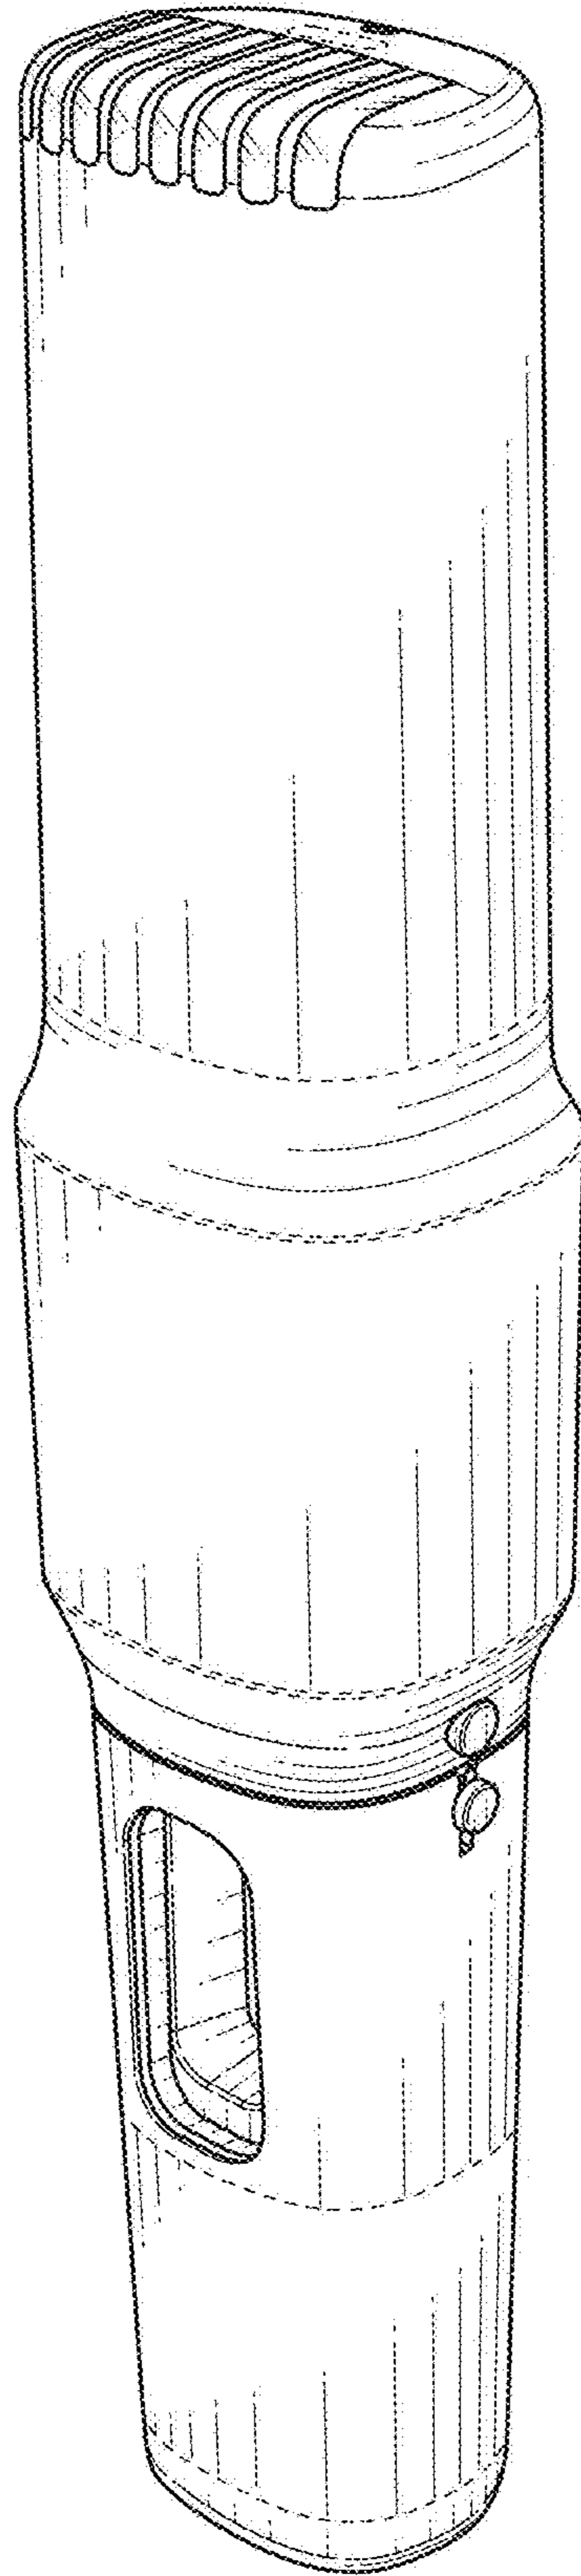
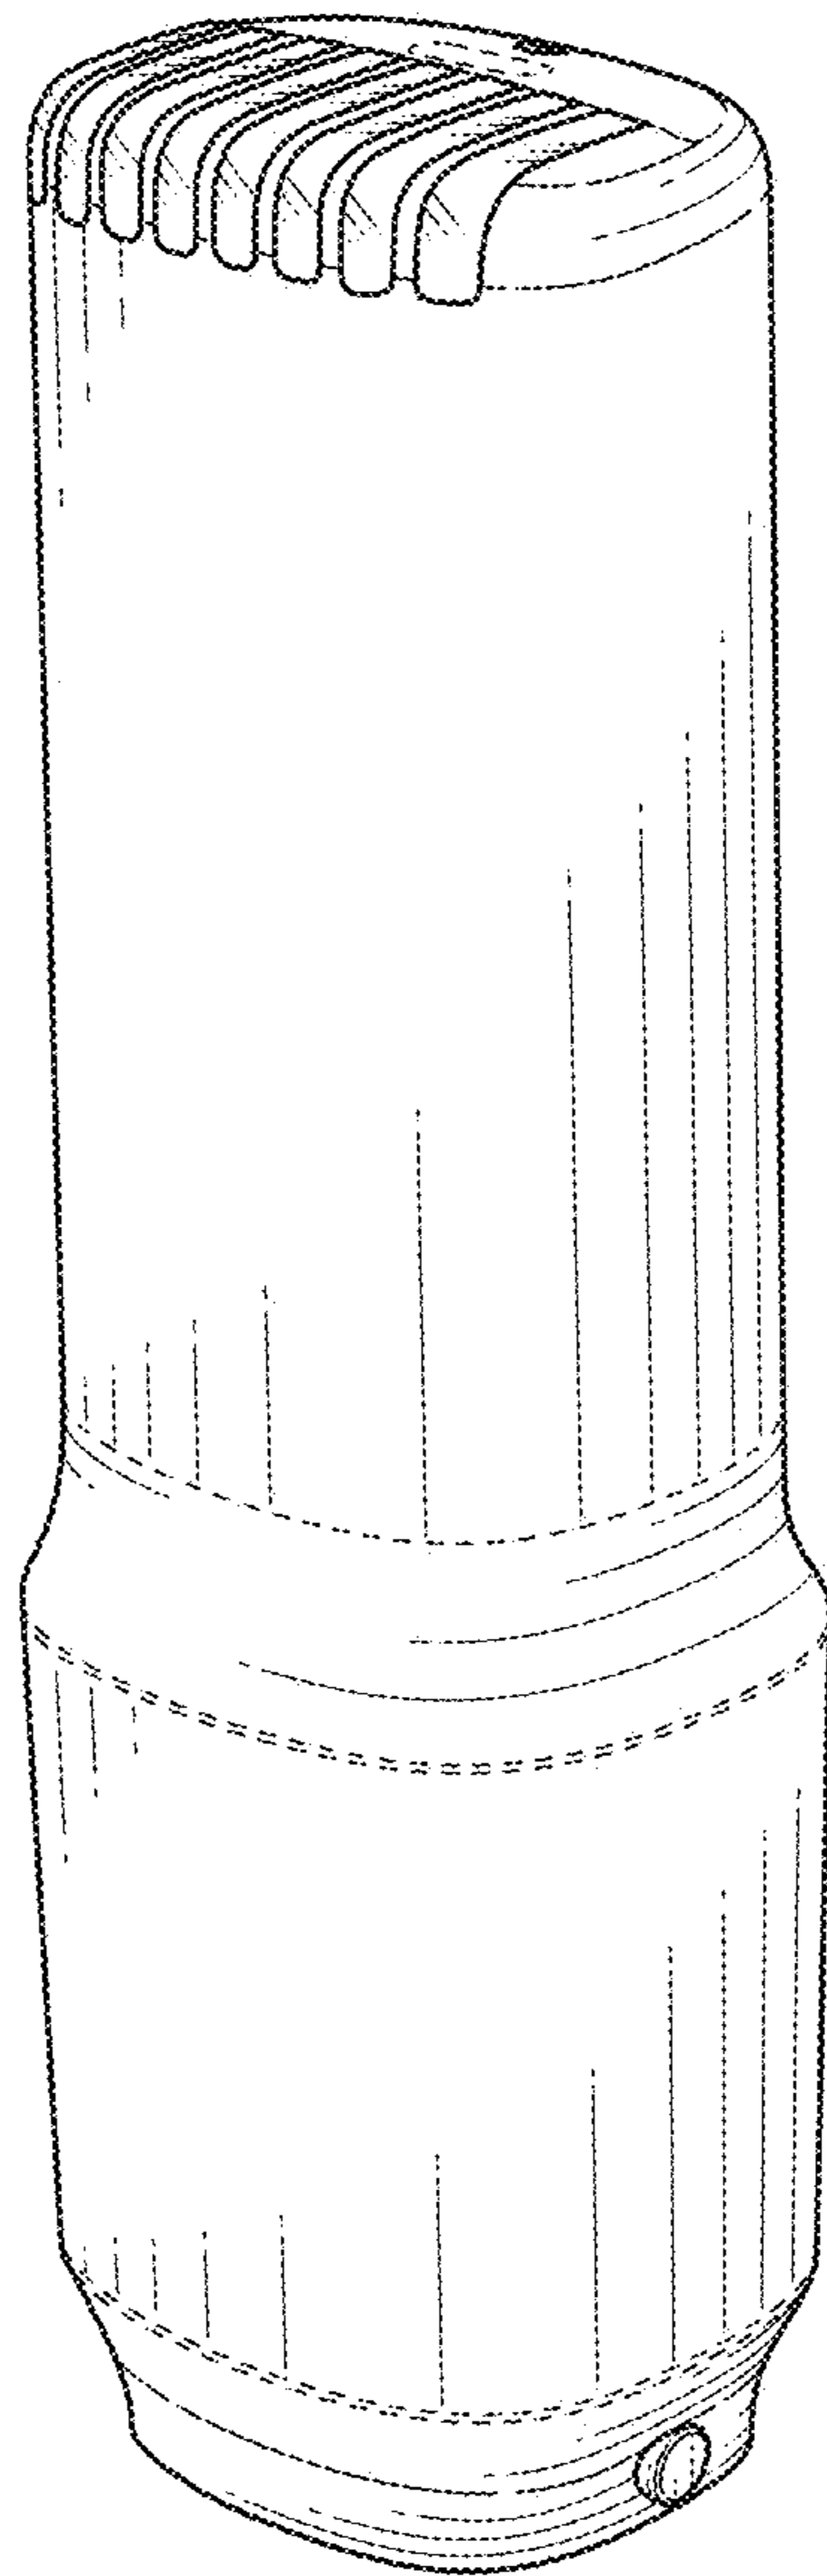
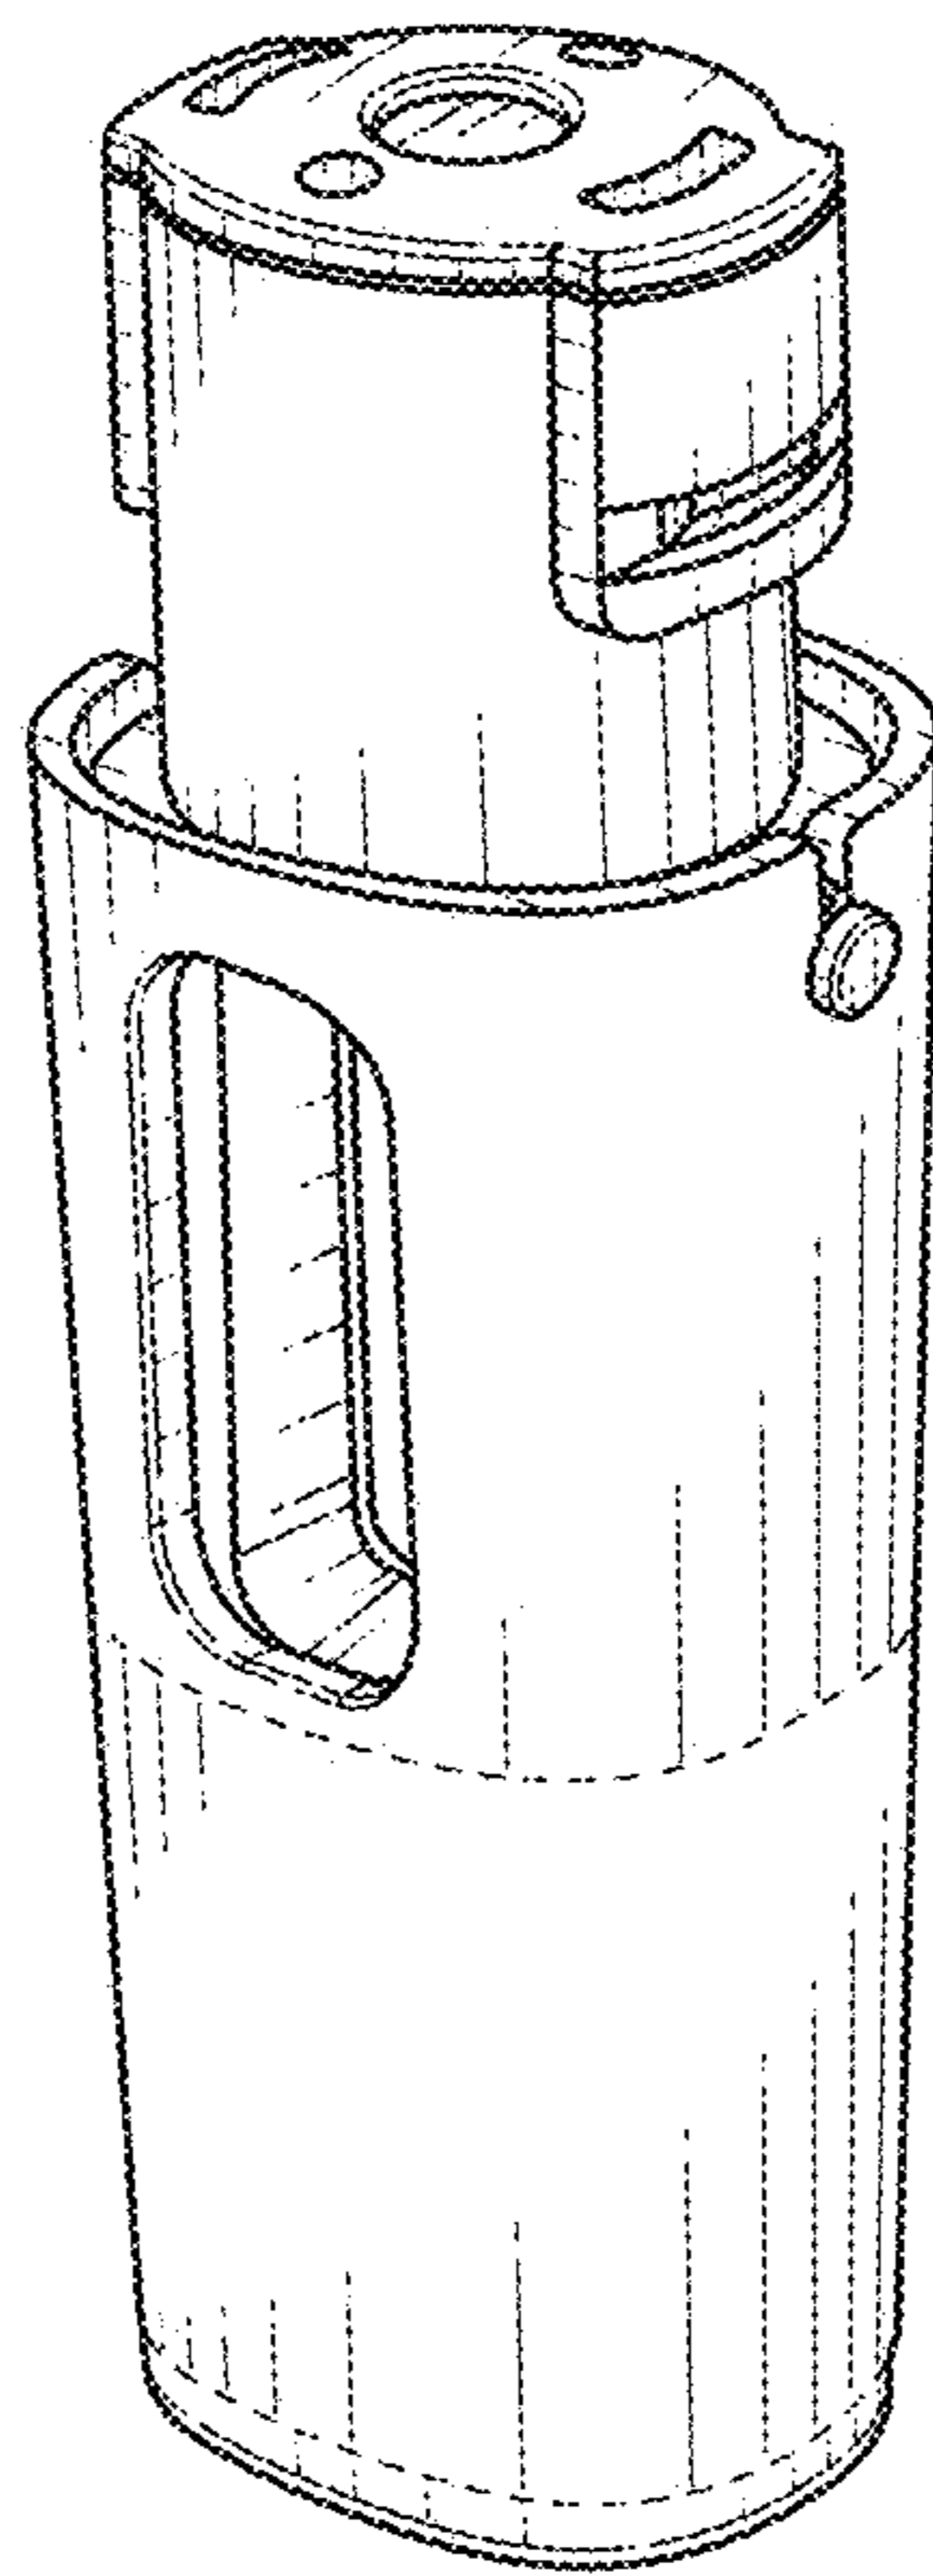
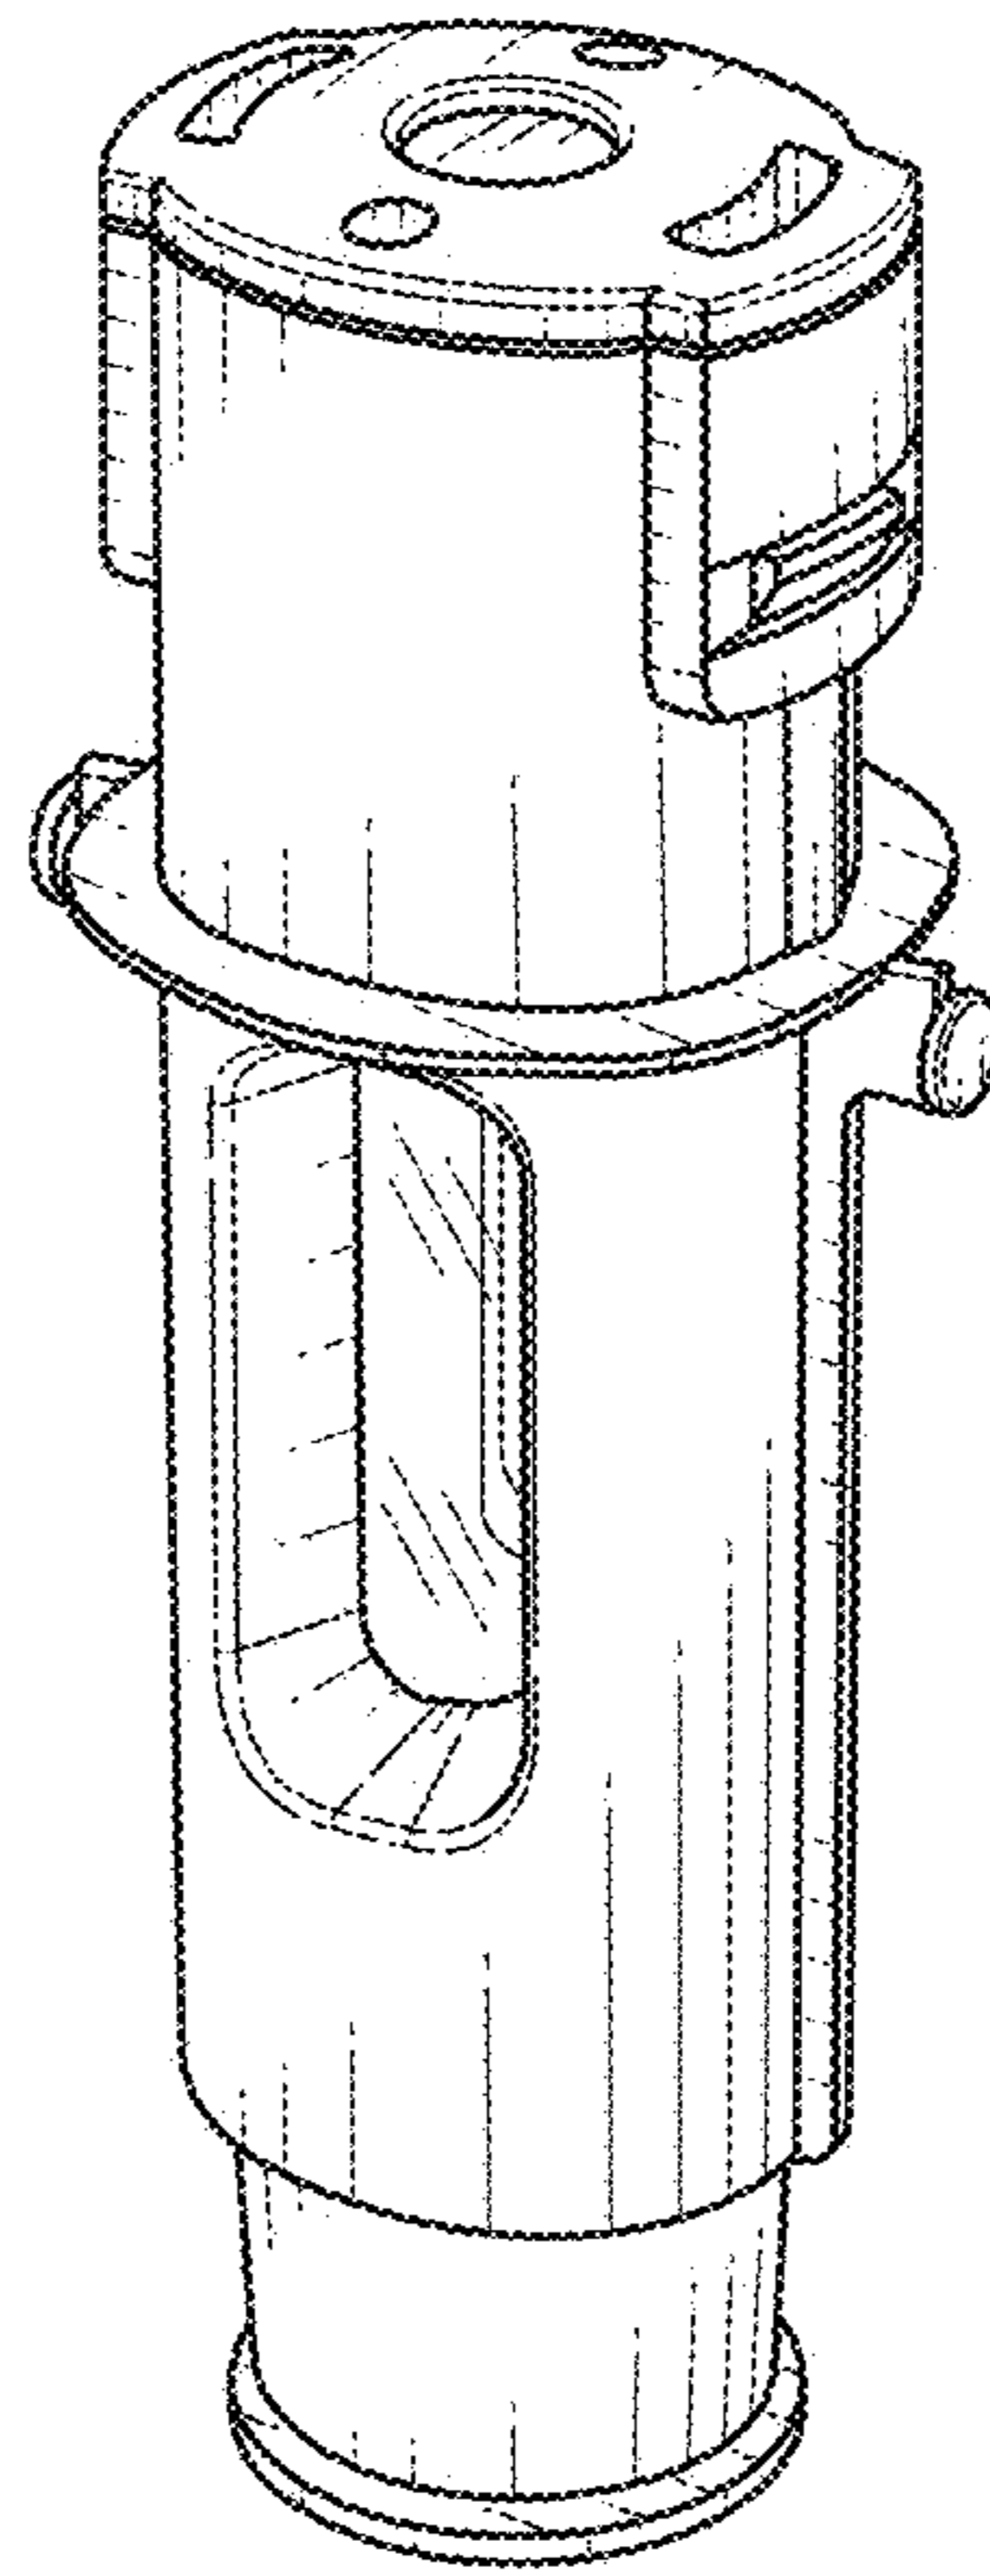

FIG. 1
FIG. 8
FIG. 15
FIG. 22
- FIG. 1 is a perspective view of the top and right of and above the complete medical injection device;
FIG. 8 is a perspective view of the top and right of and above the power pack portion of the medical injection device from FIG. 1;
FIG. 15 is a perspective view of the top and right of and above the injector portion of the medical injection device with a protective cap from FIG. 1;
FIG. 22 is a perspective view of the top and right of and above the injector portion of the medical injection device without a protective cap of FIG. 1;